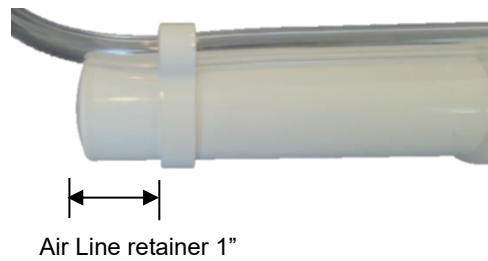

Figure 21, Diffuser Air Line Detail
4. Slide air line retainer towards top of float tube. Retainer should be approximately 1" below the top of the float tube. See Figure 21.